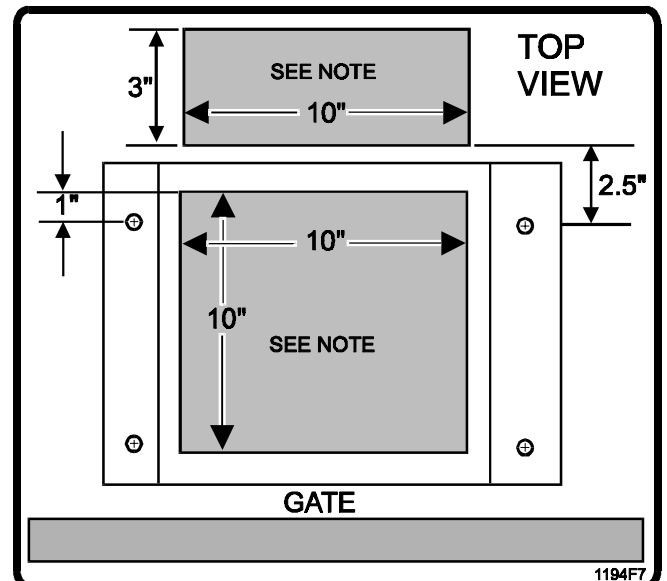

Figure 6. Conduit Entrance Areas.
4. Be sure to provide access for wiring conduits (Figure 6).
NOTE: In Figure 6, shading indicates acceptable areas for conduit stub access.